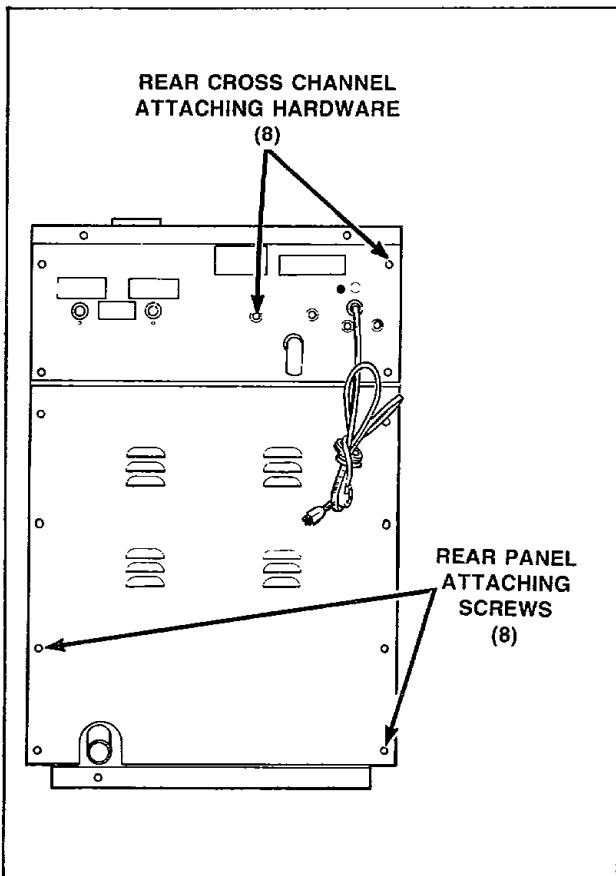

Figure 5
- a. Remove screws holding the rear panel to the side panels, *Figure 5*.
- Remove screws holding the rear panel to the washer, *Figure 5*.
- g. Remove the six screws holding the rear panel and cross channel to the side panel, *Figure 5*.